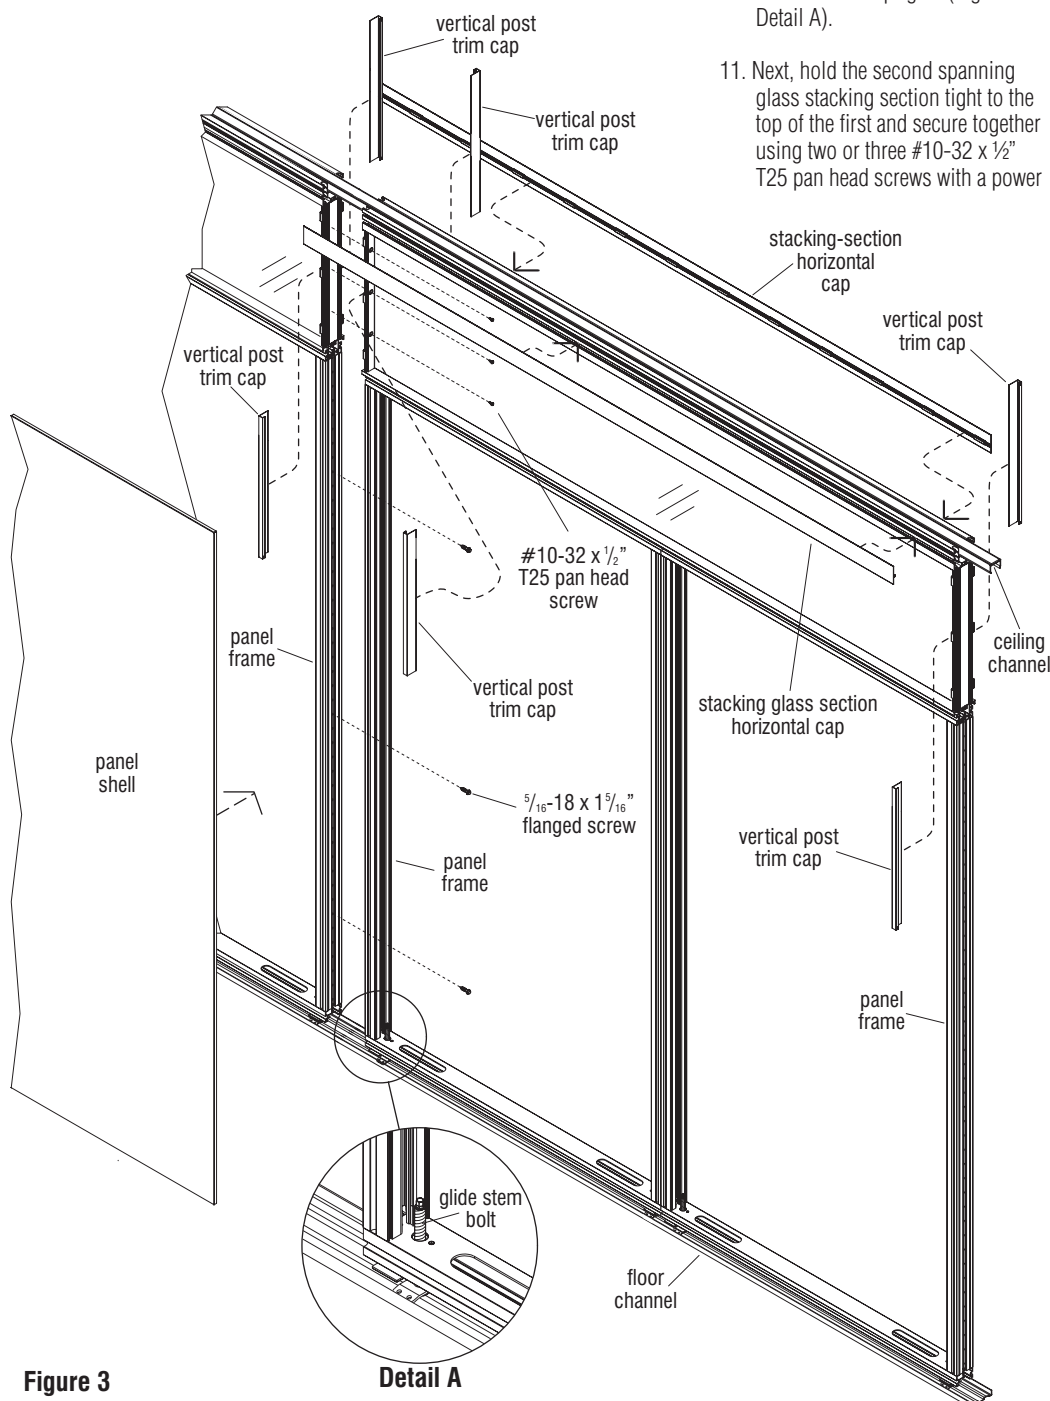

Figure 3
section unit tight to the first and secure the panel frames together using three evenly spaced  $\frac{5}{16}$ -18 x  $1\frac{5}{16}$ " flanged screws at pre-drilled holes in the panel's vertical frame uprights (Figure 3 & Detail A).
drill and T25 Torx driver to secure the tops of the units together as illustrated (Figure 3).
13. Locate the vertical post trim caps which were removed in step 4, Figure 1. Re-install them into the same orientation, onto the stacking panel sections by pressing them straight onto the vertical posts (Figure 3).
14. Proper orientation and installation of the stacking section horizontal cap is important. The stacking section cap is designed to be installed with more material above the mounting boss, and less material below. Position the horizontal stacking section cap as described for proper alignment of top and bottom trim, then press the boss of the cap into the stacking panel frame's groove, pressing firmly along the flat trim at the location of the mounting boss (Figure 3).